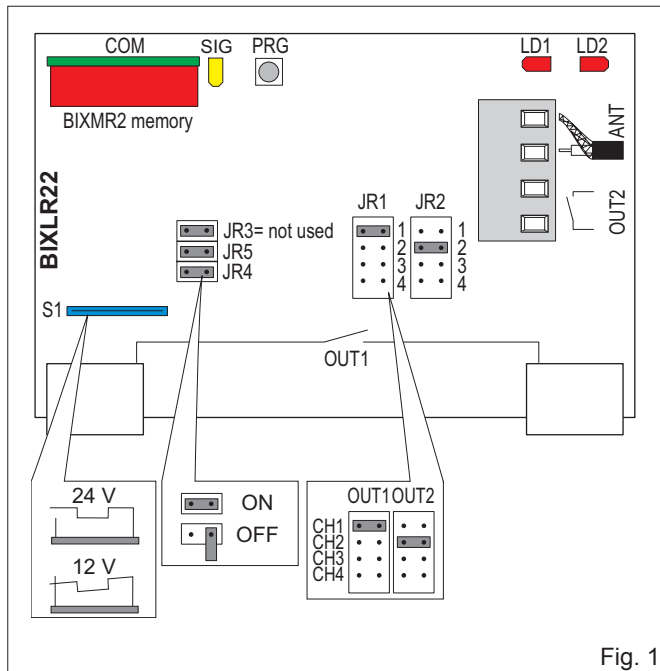

Fig. 1
2. RICEVITORE (fig. 1)
3. SELEZIONE CANALI-USCITE (fig.1)
2. RECEIVER (fig. 1)
3. SELECTION OF CHANNELS-OUTPUTS (fig.1)